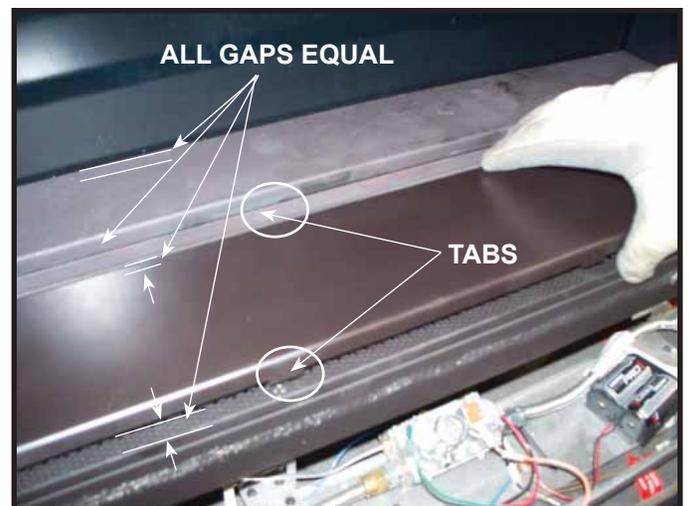

Figure 5. Placing Base Pieces.
1. Install rear inside base piece. Position piece into bottom of fireplace with tabs facing the burner. Center piece from front to back. There will be a gap between the front edge of the base piece and the burner area and also a gap between the back of the base piece and the rear firebox panel. These two gaps should be equal. See Figure 5.
2. Install front inside base piece. Position piece into bottom of fireplace with tabs facing the outside edge of the firebox. Center from front to back. There will be a gap between the front edge of the base piece and the front of the firebox and also a gap between the back of the base piece and the burner rail. These two gaps should be equal. See Figure 5.